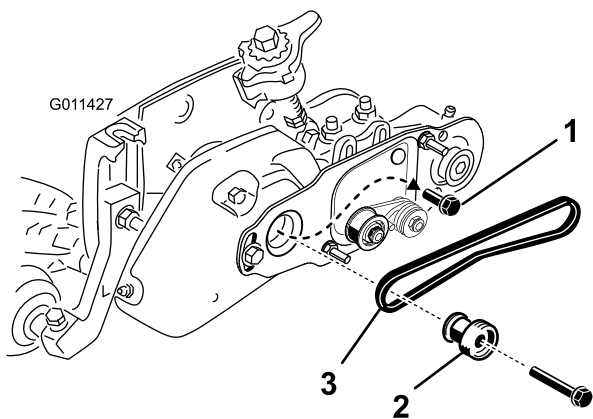

Figure 31
42. Remove the bolt securing the groomer pulley to the drive shaft (Figure 31).
43. Insert the brush drive pulley into the groomer drive pulley and onto the drive shaft (Figure 31). Make sure the pulley tabs are positioned in the slot in the drive shaft.
44. Apply Loctite to the threads of the 3/8 x 2 inch flange head bolt. Secure the drive pulley to the shaft with the flange head bolt (Figure 31). Torque the bolt to 34-40 ft-lb.